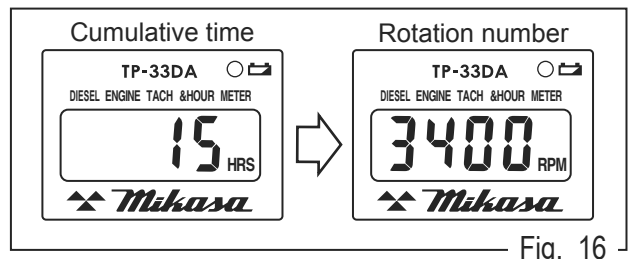

Fig. 16
f. If the engine starts, the “Engine RPM” will appear on the Tach/Hour meter. (Fig. 16) Also, once the engine speed increases, the buzzer will cease sounding.